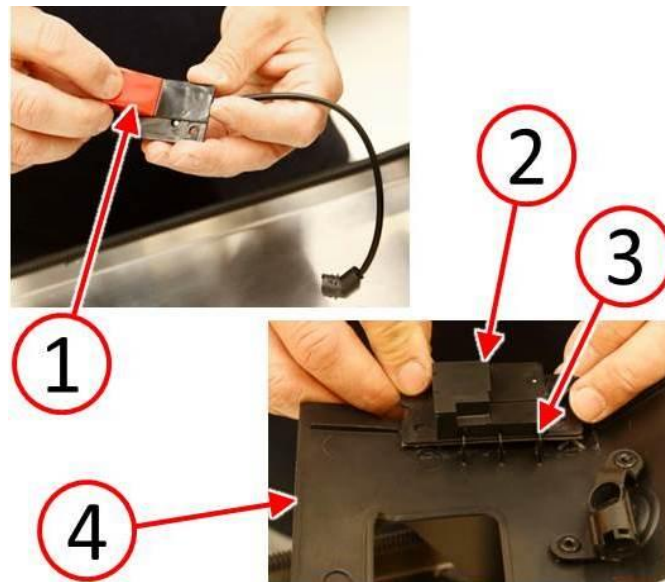

Fig. 23 Remove Tape Backing And Align Alarm Sensor
50. Remove the backing film (1) from the attachment tape (Fig. 23).
51. Align the alarm sensor (2) in its original location on the quarter trim panel (4) against the shark fins (3) (Fig. 23).